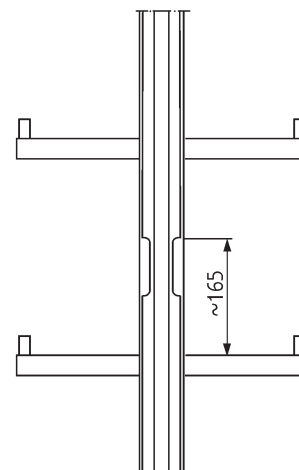

Fig. 2: Already installed centre stile release element
1.2 Mounting of an extraction cover permits the user to remove or insert the mobile anti-fall device on the anti-fall ladder. The extraction cover can be added on a already installed centre stile release element [fig. 2] as well as on an existing insertion and extraction slide of the older generation.
Measured from the top edge of the bottom rung [fig. 2], the top end of the existing release element may be positioned at 165mm. Only in that case it is possible to mount the extraction cover without adjustment element. Further assembly according to item 2.